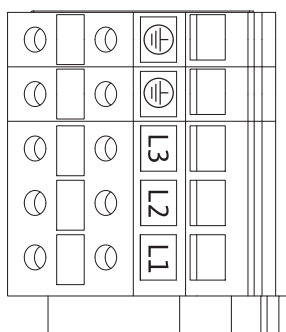

Fig. 25: Power terminals
- Power terminals (mains connection terminals) (Fig. 25)